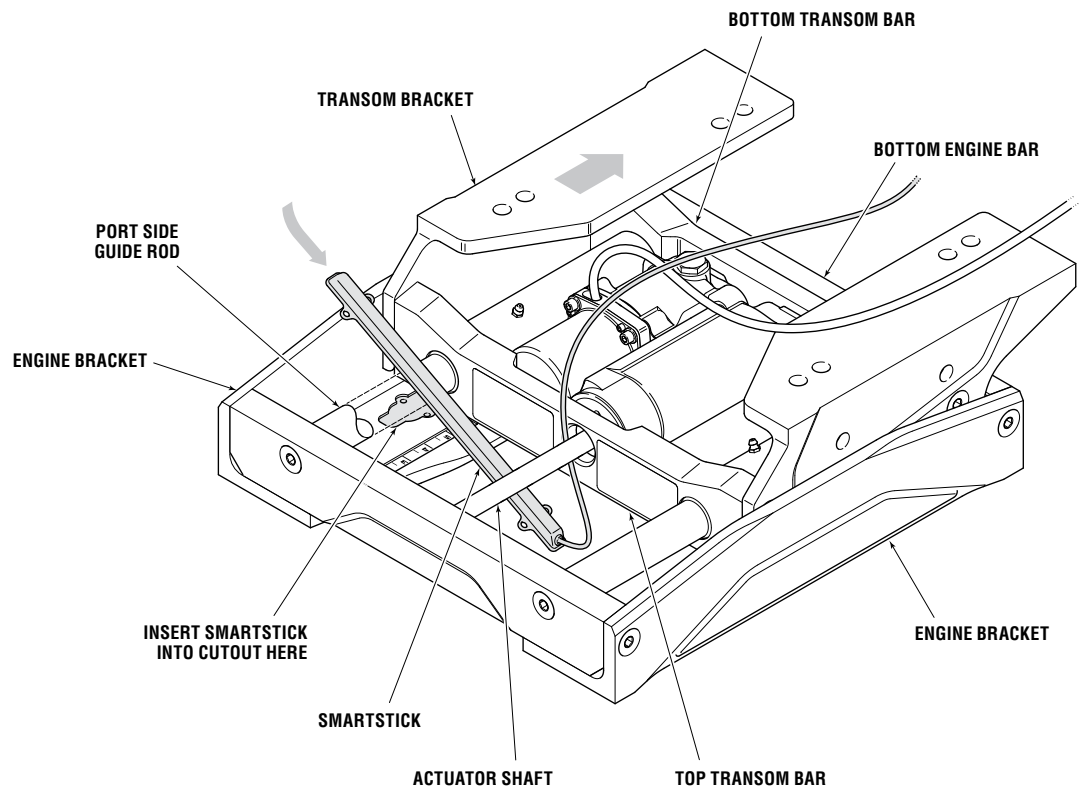

Figure 1. Positioning Smartstick with Jackplate in full up position.
1. Lay the Jackplate engine side down on a work bench. Stroke the Jackplate to the **full up position** to expose the top Smartstick fastener holes as shown in figure 1.